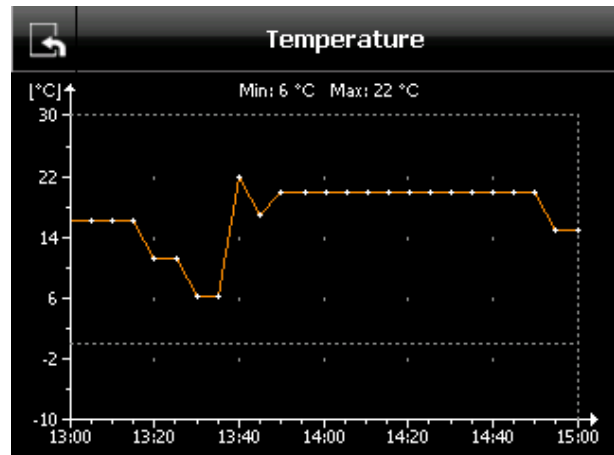

Figure 23: graphic depiction of status values
If the configuration has ended and stored with the Save button (2), the graphic depiction (see figure 23) can be called up with the trend button (4).
The status functions configured in this way on the main or detail pages then include on the right a trend button to call up the graphic depiction (see figure 23).